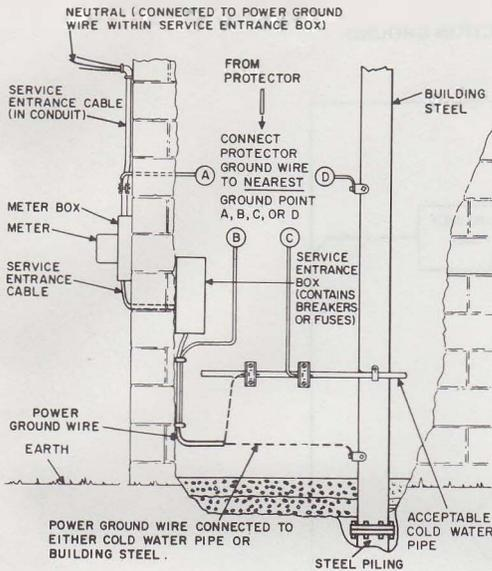

Fig. 42—Acceptable Water System or Building Ground (Power Service Grounded to Cold Water Pipe or Building Steel)
shown in Fig. 42 or installed directly on the water pipe.
6.08 Use Table D to select the best protector ground. Table D is designed to help identify the best ground electrode available for most job situations. The decision blocks contain questions regarding the conditions for grounding, the responses to which will lead to the selection of an acceptable ground. The table should be followed until the last block in the path is reached. The referenced notes and figures (Fig. 42 through 48) provide additional information and installation procedures.
in addition to a water pipe ground. Where the power is grounded in this manner, it is unnecessary to install a separate ground rod, and the protector should be grounded as shown in Fig. 42.